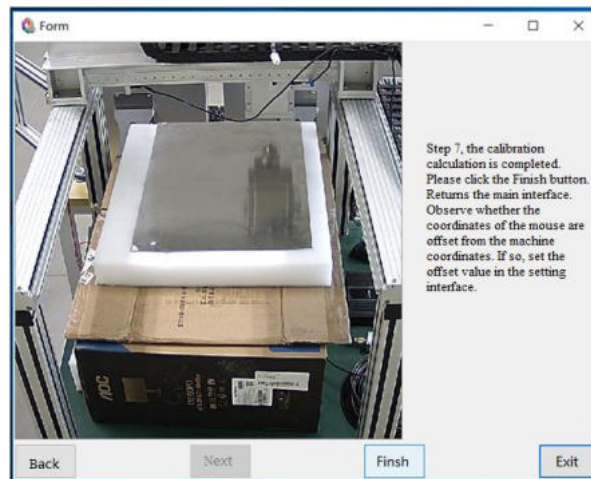

Figure 13.7 Calibration is completed
- After the fourth point is calibration, click "Next" to complete the camera calibration, as shown in Figure 13.7: